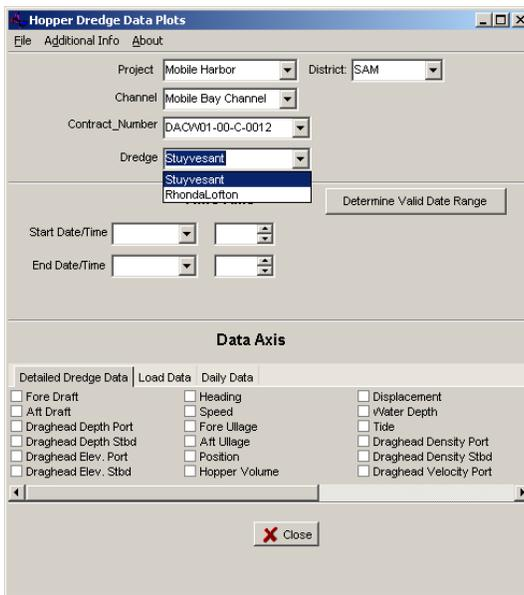

Figure 2.3 Select subsequent project identifiers
2. Select the Project and corresponding channel, contract Number, and dredge from their respective pull-down menus as seen in Figure 2.3.